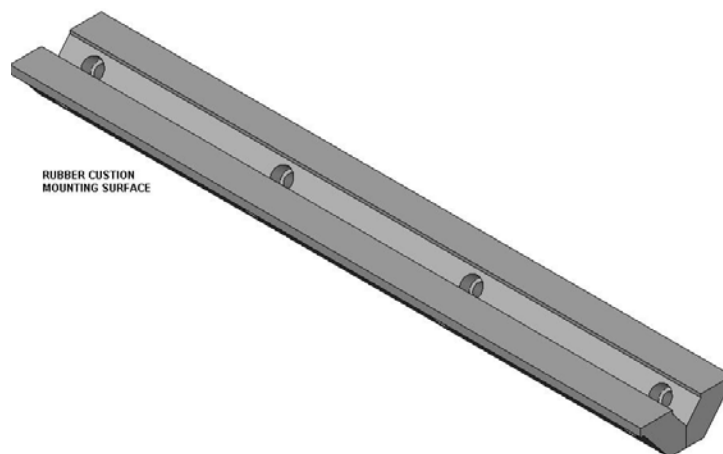

FIG. 3
8. Using the Wacker adhesive apply a bead onto the aluminum surface. Spread the adhesive out covering the entire rubber cushion mounting surface. (REF. FIG 3).